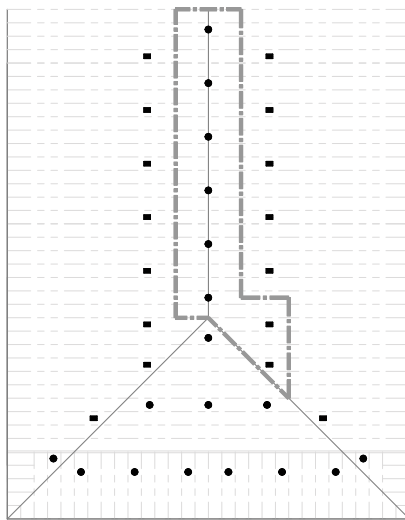

FIGURE 16A
- Calculate the most demanding 8 contiguous sprinklers with a maximum of 6 sprinklers along the ridge plus the 2 most demanding sprinklers within the hip area. See FIGURE 16A.